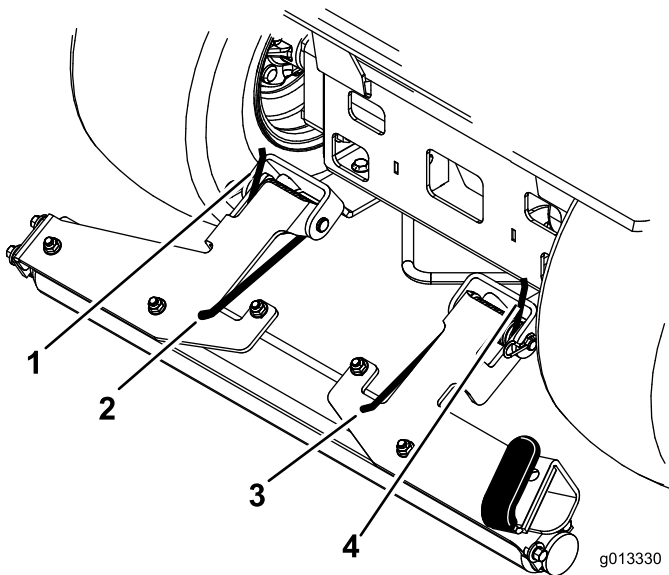

Figure 4
4. Pull the inside spring finger up over the roller mount (Figure 4).